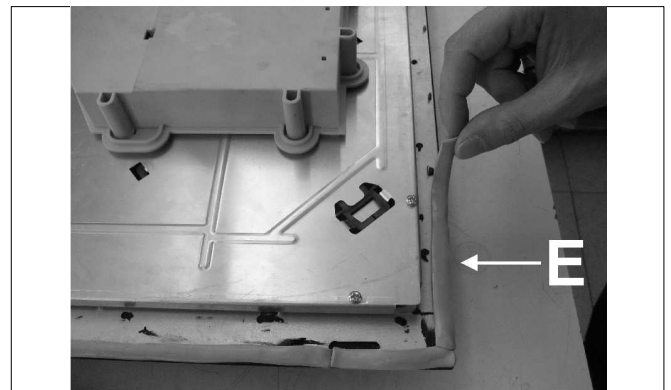

FIG. 9
- Turn the hob upside down and place the adhesive putty "E" (fig. 9) under the edge of the hob so that perfectly matches the outer perimeter edge of the glass. The ends of the strips must match without overlapping.